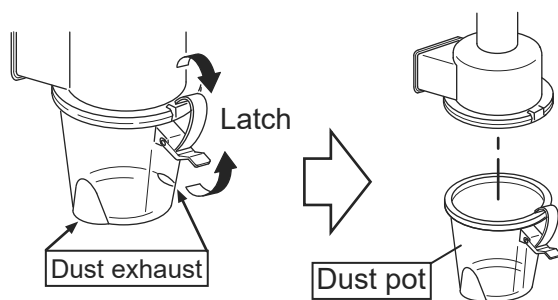

Fig.40
- i) Latch off to remove Dust Pot. (Fig.40)